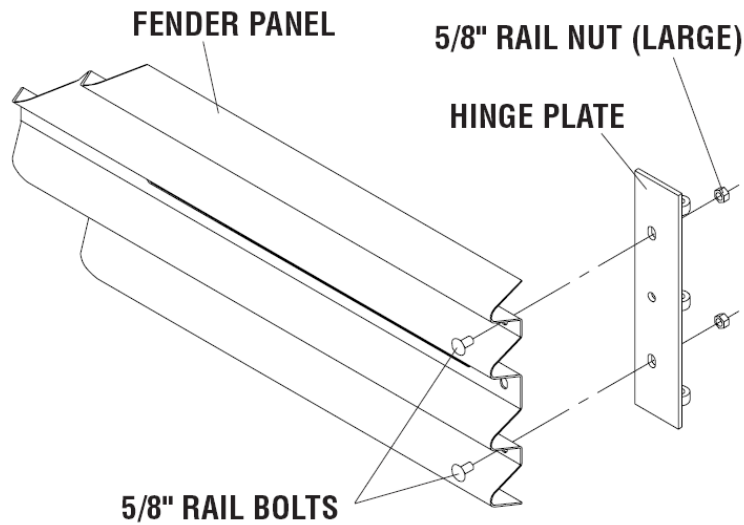

Figure 60
Attach a Hinge Plate on each Fender Panel using two (2) 5/8" rail bolts and two (2) 5/8" rail nuts, using top and bottom holes only, leaving the center-hole open as shown in Figure 60.